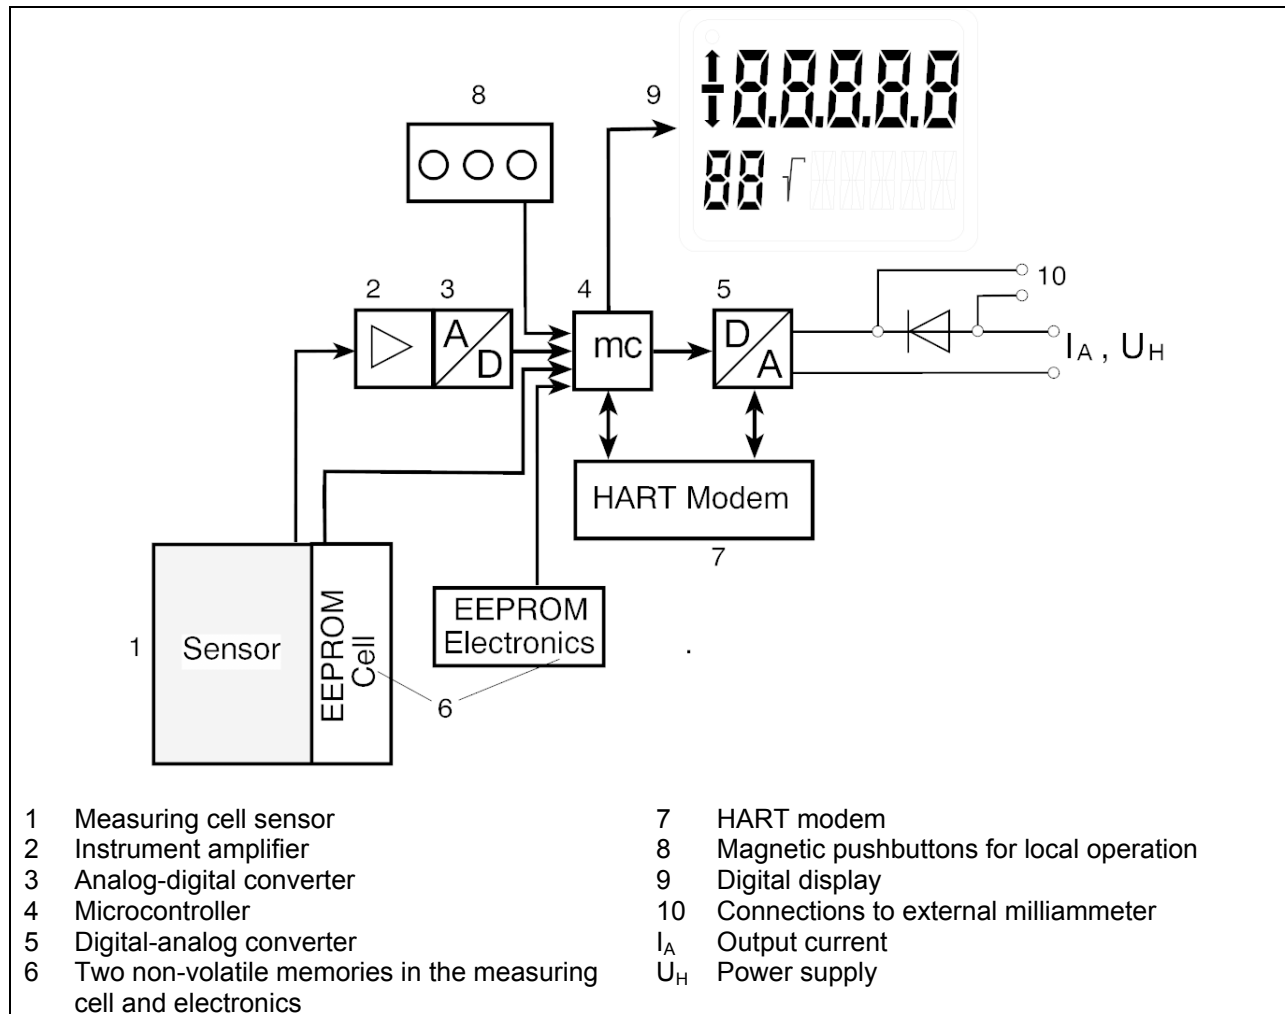

FIGURE 8-1 Transmitter Block Diagram
This section provides a basic circuit description of the SITRANS P DSIII Pressure Transmitter. Figure 8-1 shows the functional block diagram. Basically the transmitter consists of two active components: a measuring cell and an electronics module. Input pressure is piped to the measuring cell (1) that includes diaphragms, fill fluid, and related components. The output signal from the measuring cell goes to the electronics module that consists of the microcontroller (4), A/D (3) and D/A (5) converters, HART modem (7), and related components. The magnetic pushbuttons (8) and display (9) connect to the electronics module.